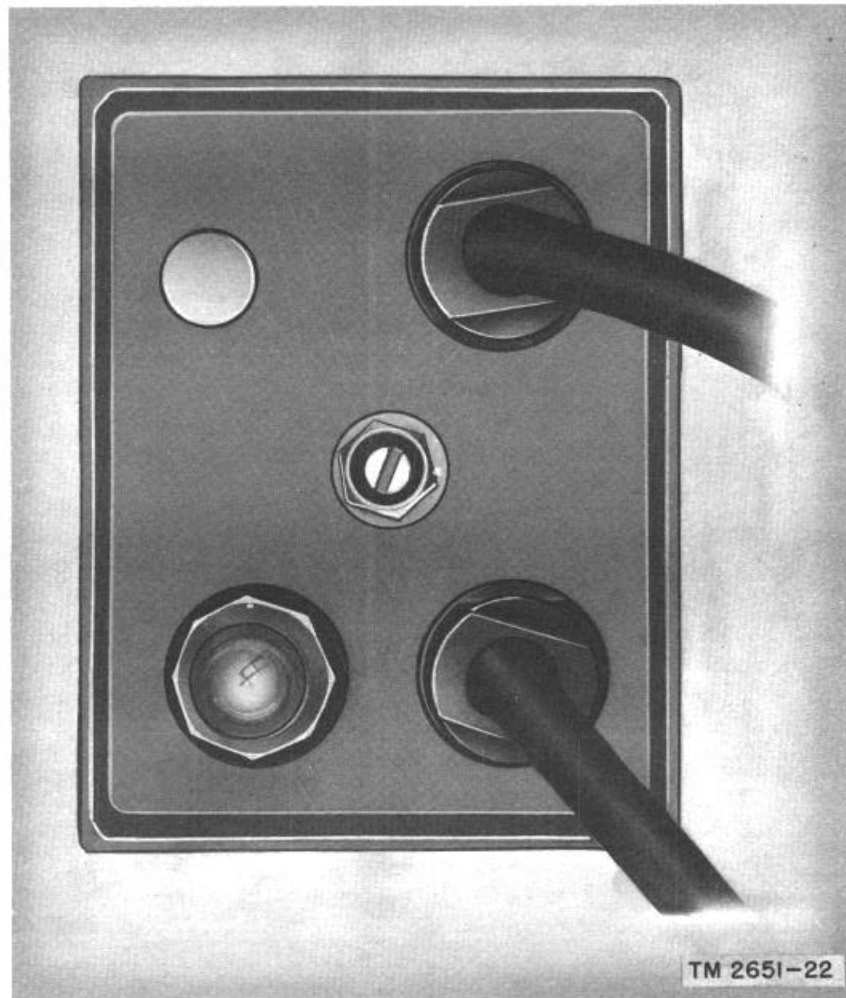

**Figure 22. Connections to Insulator IL-4/GRA-4.**
- (b) Connect the wire terminations of the two reel assemblies to Insulator IL-4/GRA-4 by means of the thumb nuts on the insulator (fig. 22).